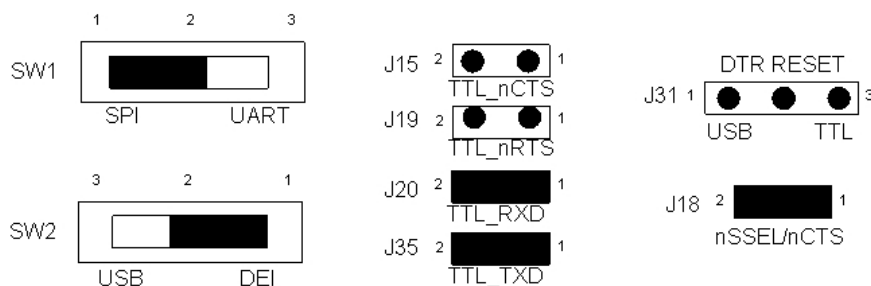

Figure 6. Jumper settings required for on-board host microcontroller UART access by InSight Adapter
2. Move SW1 to position SPI (pin 1, left) and SW2 to position DEI (pin 1, right) as shown in Figure 6.